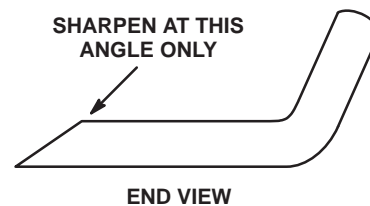

Figure 36
3. Examine the cutting edges of all blades. Sharpen the cutting edges if they are dull or nicked. Sharpen only the top side of the cutting edge and maintain the original cutting angle to ensure sharpness (Fig. 36). The blade will remain balanced if the same amount of metal is removed from both cutting edges.